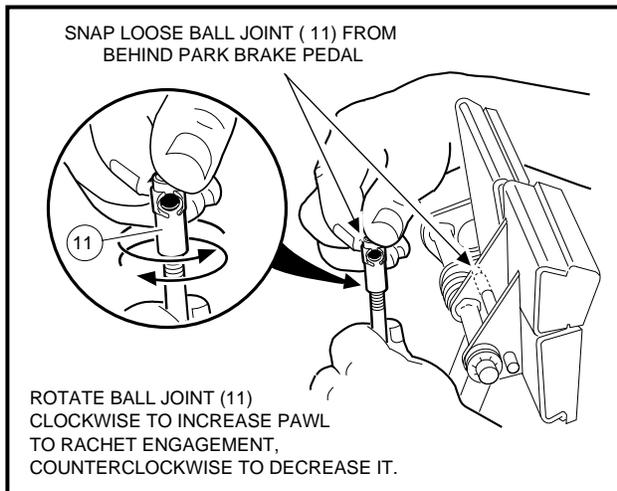

Figure 5-7 Brake Rod Adjustment
- 2.5. If ratchet/pawl engagement must be adjusted, disconnect the ball joint at the top of the brake rod and rotate the ball joint sleeve clockwise to increase engagement or counterclockwise to decrease engagement. Reconnect ball joint (**Figure 5-7, Page 5-5**).